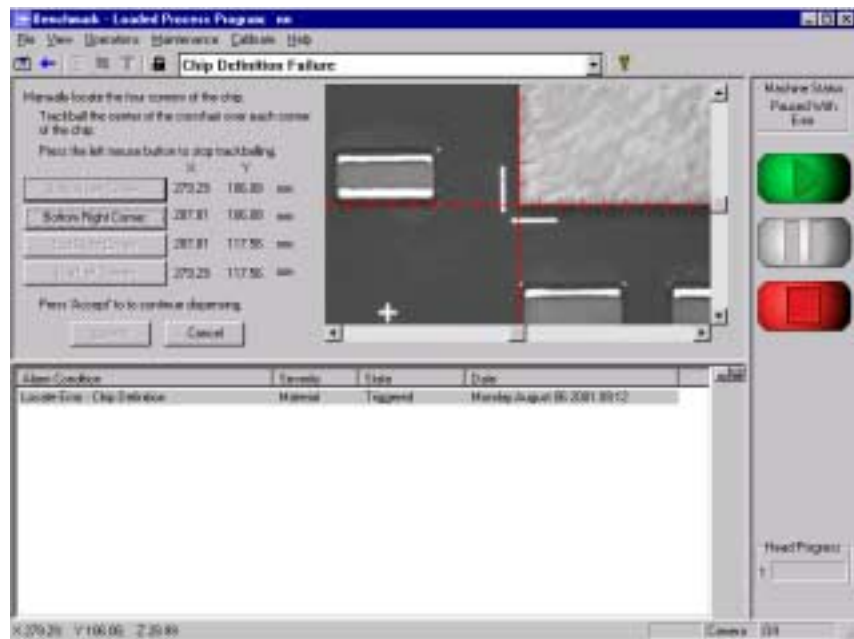

Figure 3
1. Select **Manual Chip Find** from the Alarm Recovery Options list. A screen will appear with four chip corner buttons and a vision window. See Figure 3.
2. Select the **Bottom Left Corner** button. While looking at the monitor, drive the crosshair using the trackball over to the bottom left corner of the chip. When the crosshair is square to the corner, select the left button on the trackball. See Figure 3.